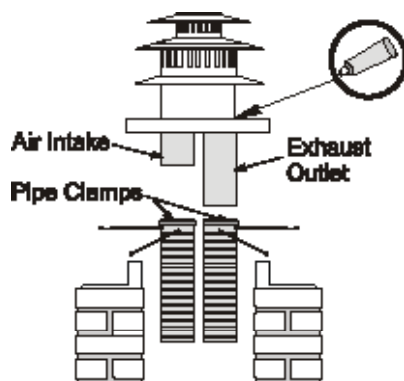

Figure 6. Connecting the exhaust outlet and air intake flex liner.
STEP 5: Place a pipe clamp around each piece of flex as illustrated below. Connect one flex liner to the exhaust outlet on the chimney cap. Connect the other flex liner to the air intake collar of the chimney cap. **Mark both ends of the exhaust pipe with black paint or by other means to ensure the proper connection is made.** Tighten the pipe clamps and fasten the pipe with the screws provided. Seal between the flashing and chimney cap with high temperature silicone. See figure 6.